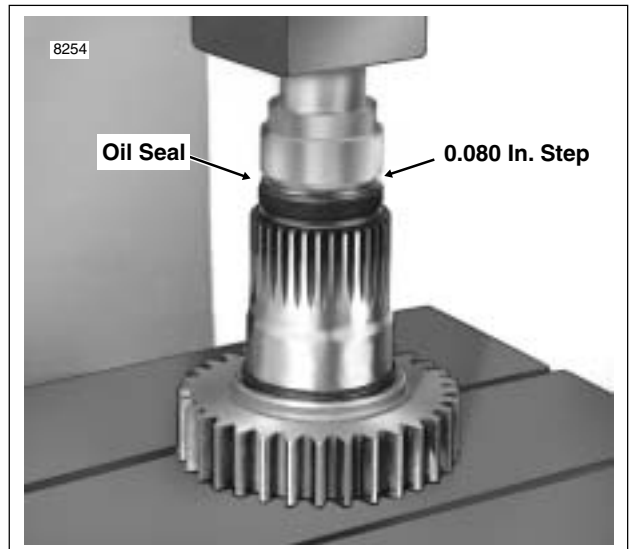

Figure 7-29. Press Oil Seal on Main Drive Gear
3. Turn over tool and press on oil seal using the 0.080 inch step (garter spring side toward main drive gear). See Figure 7-29.